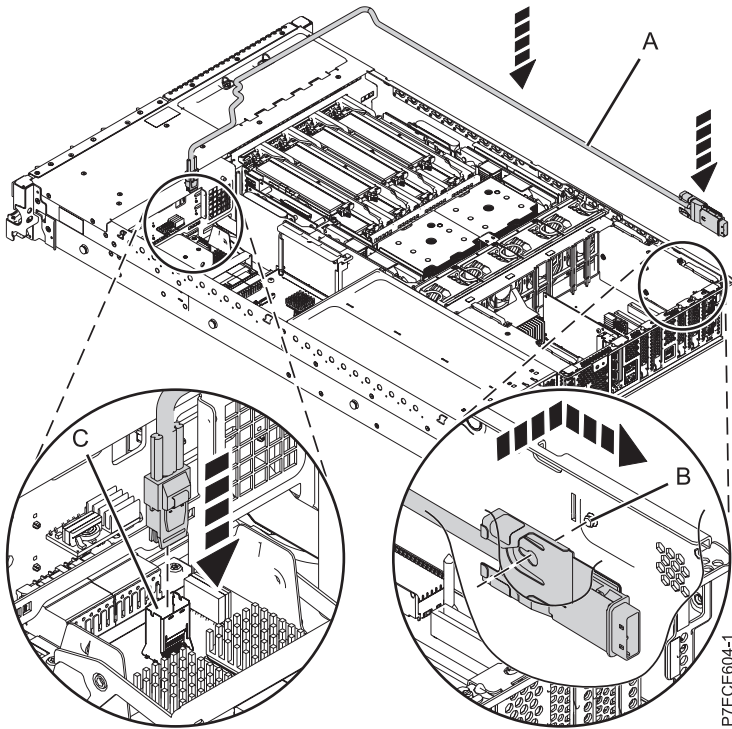

Figure 43. Replacing the SAS cable
- 1) Connect the mini-SAS connector of the SAS cable to the internal SAS connection port (C) on the storage interposer until it snaps in place. See Figure 43 on page 56.
- 2) Route the cable (A) in front of the memory riser cage, and along the channel in the side wall until the SAS port connector is near the opening on the rear of the chassis.
- 3) Align and guide the slot in the bracket of the SAS port connector (B) over the guide pin in the chassis, then slide the SAS port connector into the opening on the rear of the chassis until the tab on the bracket snaps in place.